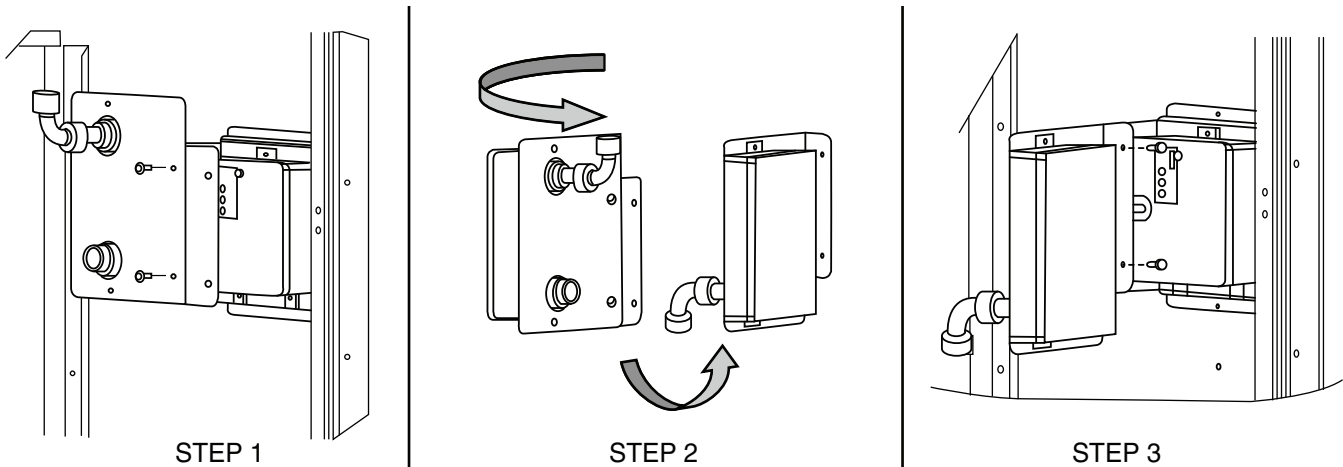

Fig. 55 — Completing Installation of Return Air Smoke Sensor
1. Unscrew the two screws holding the return air smoke detector assembly. See Fig. 55, Step 1.
3. Turn the assembly 90 degrees and then rotate end to end. Make sure that the elbow fitting is pointing down. See Fig. 55, Step 2.
4. Screw the sensor and detector plate into its operating position using screws from Step 1. See Fig. 55, Step 3.